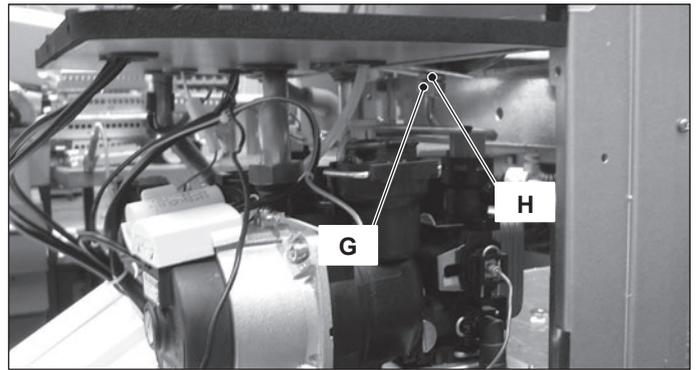

Figure 13.2
- 2 Completely unscrew the connection G, the locknut H (Figure 13.2) and remove the expansion vessel from the top of the boiler.